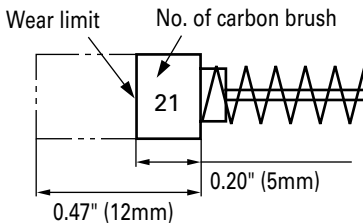

Fig. 19
4. Inspecting the carbon brushes (Fig. 19)
Use metabo HPT carbon brush No. 21 indicated in Fig. 19.